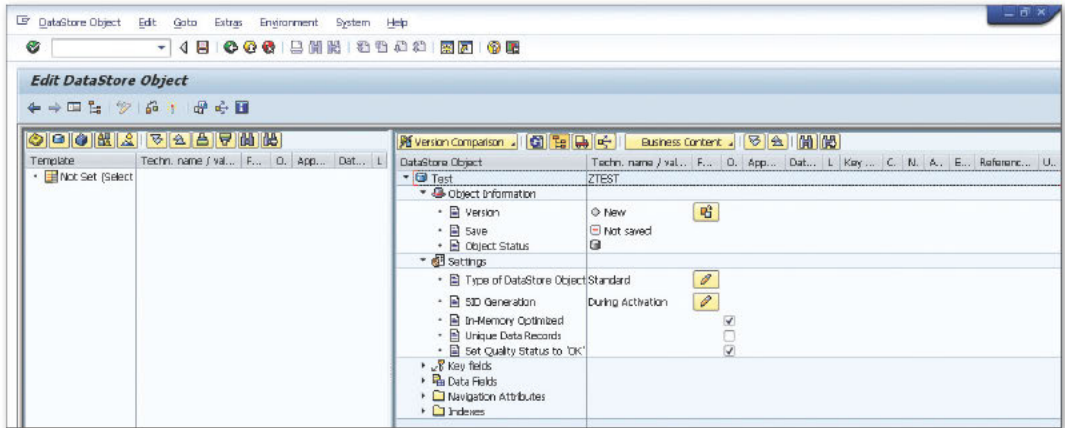

Figure 1 Creating In-Memory Optimized DSO
2. Create a DSO in SAP NetWeaver BW, and make sure that the IN-MEMORY OPTIMIZED box is checked as shown in Figure 1. Note that you need to follow all of the other basic steps involved in creating a DSO such as defining key fields, data fields, indexes, and so on.